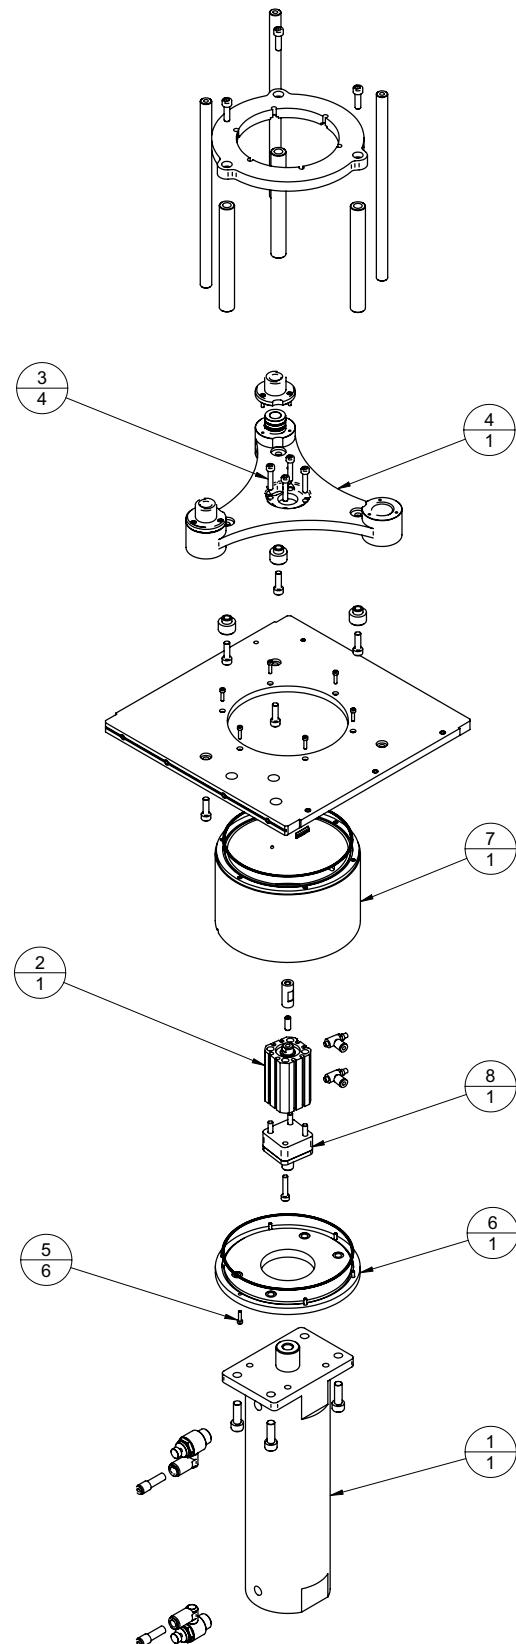
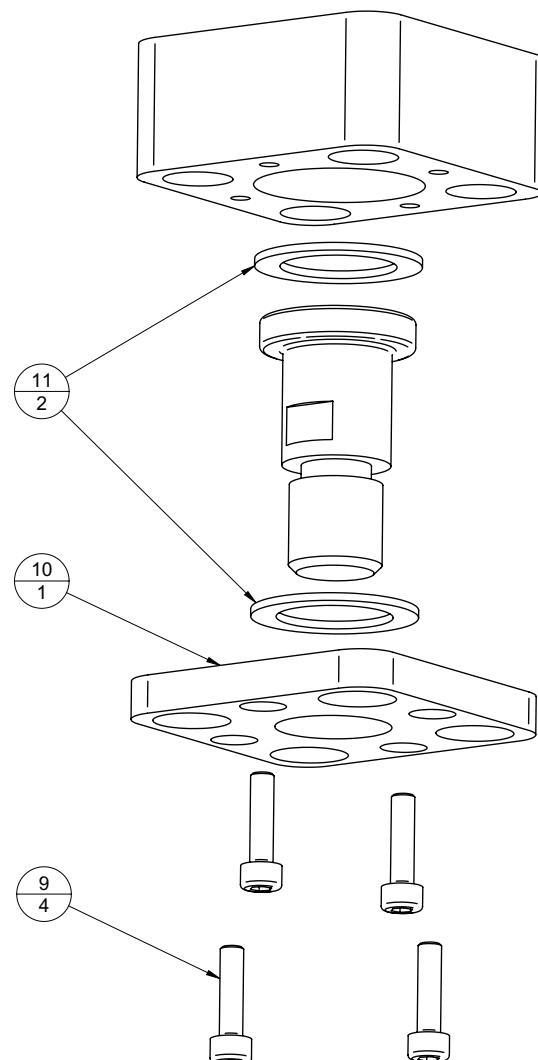

Figure 4.22 Electrode Lift Assembly
Figure 4.23 Cylinder Swivel Mount Assembly
1. Refer to Figure 4.22.
4. Remove the compressed air connections from the platen lift cylinder (1) and substrate lift cylinder (2).
5. Remove the reed switches from the platen lift cylinder (1).
6. Remove four M5 x 25 screws (3) securing the substrate lift cylinder (2) to the tri lift plate (4).
8. Remove six M3 x 12 screws securing the support tube base (6) to the cylinder support tube assembly (7).
9. Carefully lower the electrode lift assembly until the reed switches and pneumatic connections can be removed from the substrate lift cylinder (2). Then remove the electrode lift assembly from the RF enclosure and place it on a clean flat surface covered with cleanroom wipes.
10. Using a suitable spanner, hold the platen lift piston rod stationary whilst rotating the cylinder swivel mount (8) and substrate lift cylinder (2) until free.
11. Refer to Figure 4.23.
12. Remove four M3 x 12 screws (9) and capping plate (10).
13. Remove and discard PTFE washers (11).